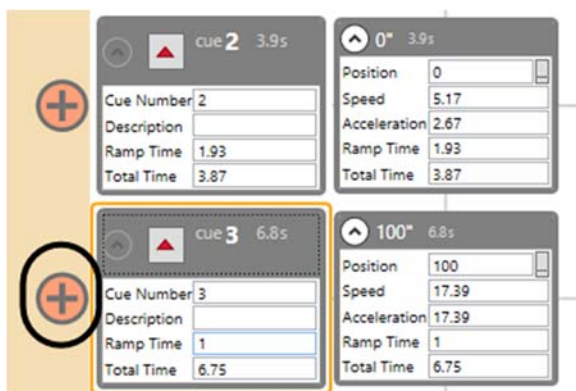

Figure 237
1. Click the **Add Link** button next to the **Child Cue** (Figure 237).